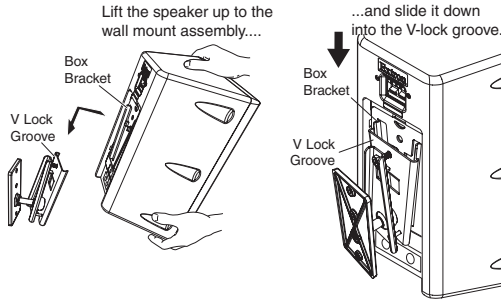

Figure 5 — Slide the speaker down onto the wall mount assembly
- Carefully lift the speaker above the wall mount assembly and gently slide the speaker box bracket down into the V lock groove (see figure 5) until it locks into place.